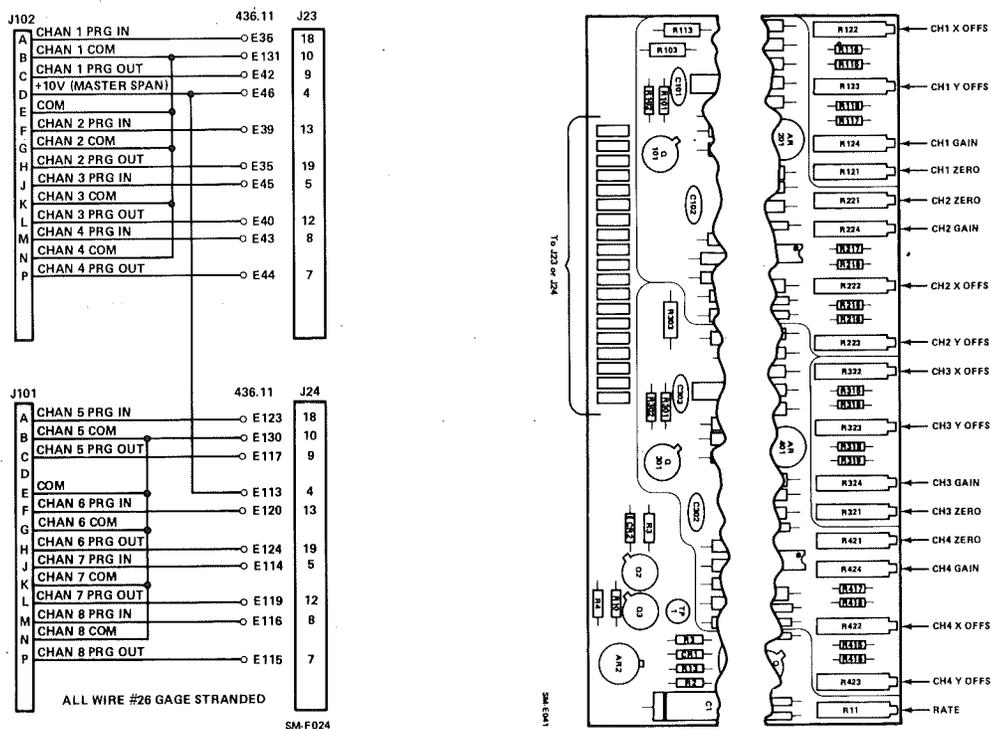

Figure 3-1. Soft Run/Stop Adjustments
1. Connect a jumper to J101 or J102 (see figure 3-1) between COMMON and PROGRAM IN for the first channel to be calibrated.